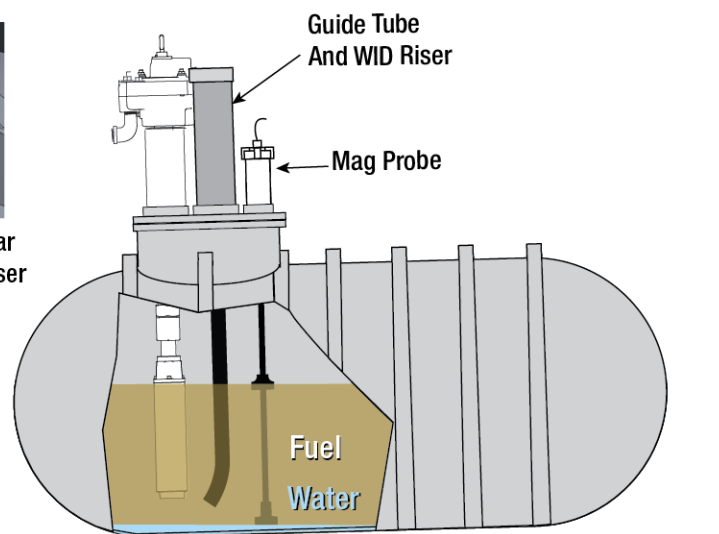

Figure 7. Guide Tube Installation Example - Tank tilting toward short end of the tank
3. Once the riser is installed, get the Guide Tube assembly and alignment bar from the kit. The Guide Tube is inserted into the riser and sits on the riser flange. Example Guide Tube installations are shown in Figure 6 and Figure 7.